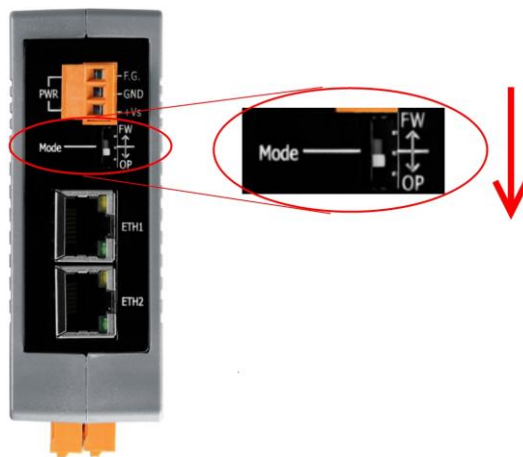

Figure 3-1 Mode Switch
3. Check FW/OP DIP switch if it is on **OP** position(Figure 3-1).